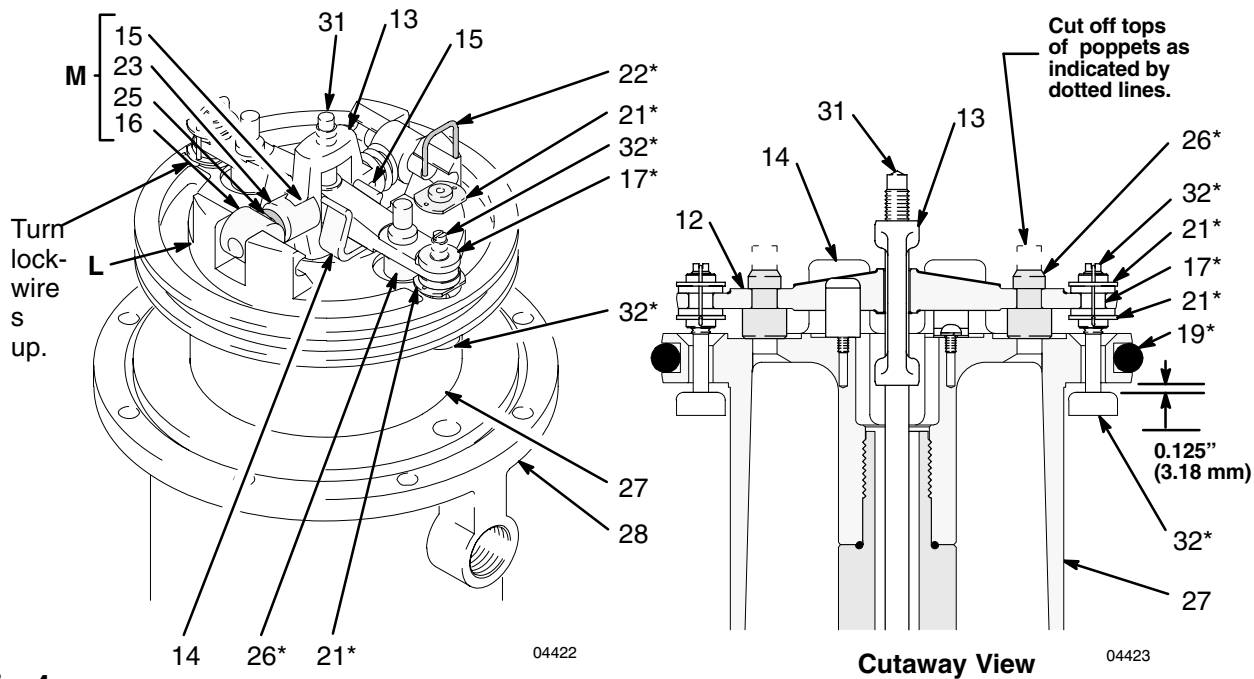

Fig. 4
10. Pull the piston assembly from the air motor base (28), and set it aside.
11. Remove the vee block seal (10†) with a pick, and clean the groove in the air motor base (28). Remove any dirt in the groove, and wipe the groove clean with a cloth.
13. Use a screwdriver to push down on the trip rod yoke (13), and snap the toggles down. See Fig. 4.
14. *In this step, while you are prying with the screwdriver with one hand, cover the toggle assemblies with your other hand so as to catch the spring-loaded toggle assemblies when they snap out of the lugs.* Place the tip of a screwdriver into the piston between the piston lugs (L) below the pivot pins (16) on the toggles, pry up with the screwdriver handle to compress the springs on the toggle assembly (M) up and away from the piston lugs, and remove the parts. See Fig. 4.
15. Straighten the lockwires (22*) and remove them from the valve nuts (21*). Screw the top nuts off. Remove the trip rod yoke (13), actuator (12), and trip rod (31). Unscrew the bottom nuts (21*), and remove the poppets. Make sure the valve bar spring clips (14) are not worn or damaged and that they properly guide the actuator (12).
16. Remove the exhaust valve poppets (26) by cutting them with a side cutter, then pull them out of the actuator (12).
To reduce the risk of pinching or amputating your fingers, keep your fingers clear of the toggle assemblies when you are snapping the toggles (M in Fig. 4) up or down.
1. Place the piston rod (29) flats in the vice with the air motor up.
2. Pull the exhaust valve poppets (26*) into the valve actuator (12), and clip off the top parts of the poppets (shown with dotted lines in the **Cutaway View** in Fig. 4).
3. Install the grommets (17*) in the actuator (12), place the inlet valve poppets (32*) in the piston, and thread the bottom valve nuts (21*) onto the inlet valve poppets until there are a few threads left before the threads run out.
4. Grease heavily and place the trip rod (31) in the piston, place the actuator (12) in the yoke (13), and place the well-greased actuator/yoke assembly in the piston, with the trip rod going through the center holes of the actuator and yoke and the inlet valve poppets (32*) going through the grommets (17*).
6. Install the toggle pins (15) in the yoke (13), place the toggle arm (23) ends of the toggle assembly (M) onto the toggle pins, and snap the pivot pin (16) ends of the toggle assembly into the lugs (L).
7. Measuring with the gauge (Part No.171818), create 0.125 in. (3.18 mm) of clearance between the inlet valve poppets (32*) and the piston seat when the inlet valve is open. See the **Cutaway View** Fig. 4.